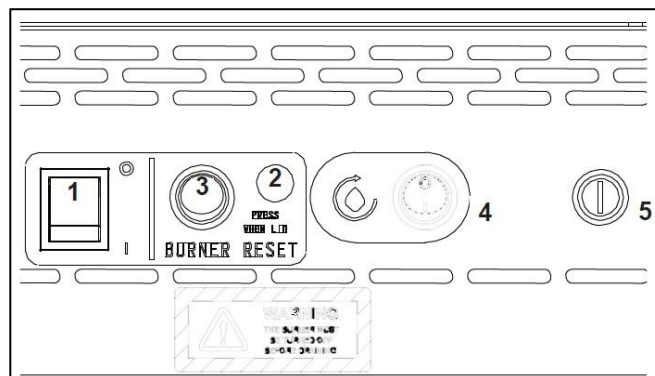

Figure 6 – Additional controls
Additional Controls - (See Figure 6)
- g) Neon next to burner switch inside door will illuminate to indicate lockout has occurred and that no burner flame is present. Additional controls - Item 2 on Figure 6.
- i) Press lockout reset switch. See Figure 6 (*Lock out indicator will extinguish*).
The unit is equipped with an additional temperature limit thermostat, independent of main controller. In the case of operating thermostat failure, allowing oil temperature to rise above predetermined legislation safe zone (230°C), limit device will activate and cut power to controller. It will also stop the flow of gas to burner, refer to Figure 6.
- c) Remove cap and push green button to reset limit thermostat, refer to Figure 6.